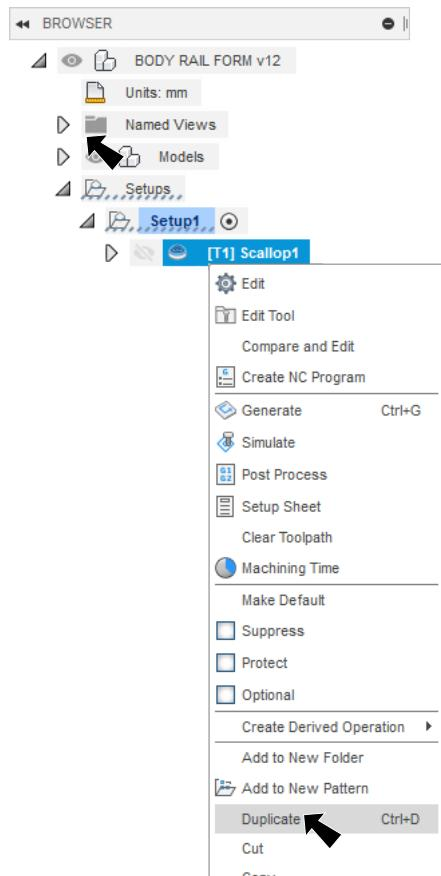

Fig. 48
Step 1. Right click Scallop1 Toolpath  in the Browser and click **Duplicate (Ctrl-D)**, Fig. 48.